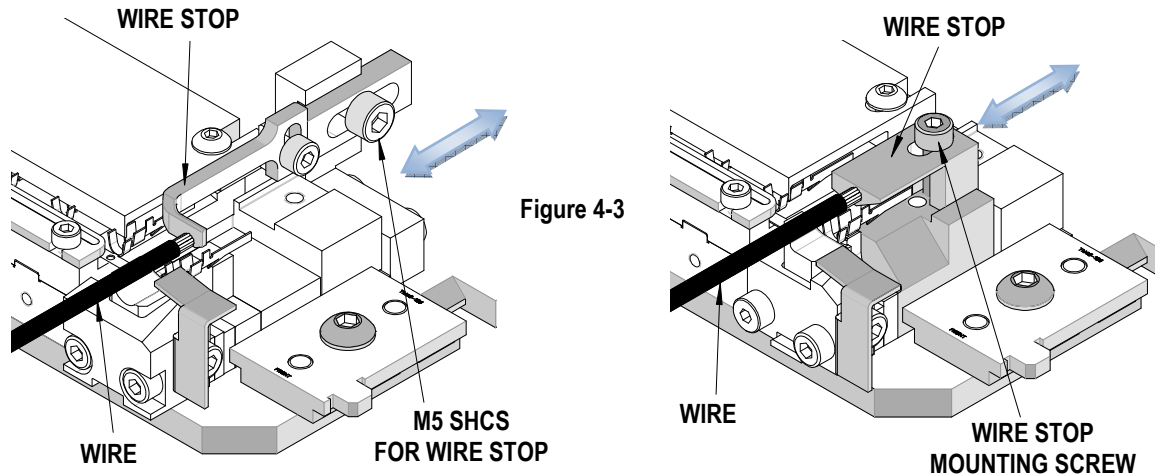

Figure 4-3
- 6. On the T2 tooling, use a 4mm hex wrench to loosen the M5 socket head cap screw located on the side of the anvil mount. See Figure 4-3.